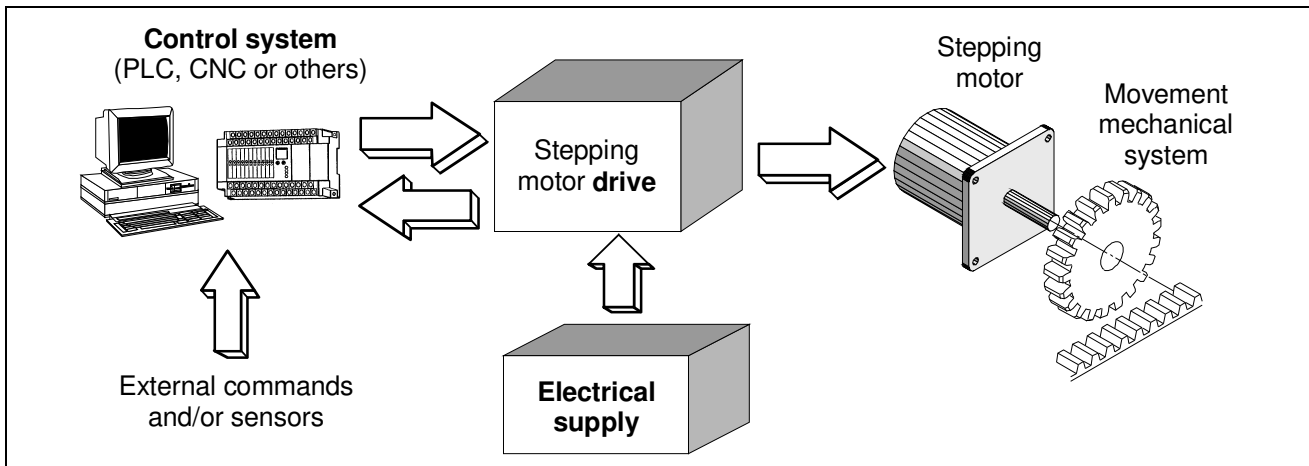

Fig. 1
1.2 - For the purposes of this manual the terms used assume the meaning below described (see Fig. 1).
- Drive: electronic part of an electromechanical motion system, which receives some digital or analog input signals from an external control system and gives to the stepping motor the suitable phase excitation sequences, in order to obtain the mechanical movements required by the control system. The drive can also communicate its status to the control system through some logic signals. In this manual we consider the drive as a BDM (EN 61800-3, chap.3, Fig.1).